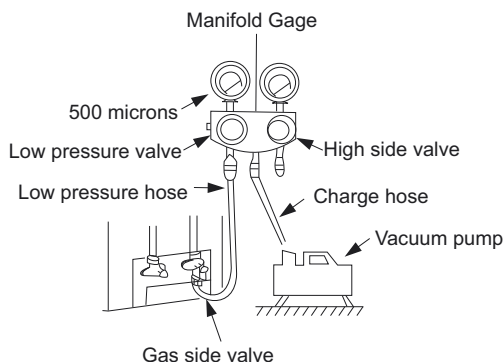

Fig. 7 – Manifold
3. Fully open the low pressure valve of manifold gauge (see Fig. 7).